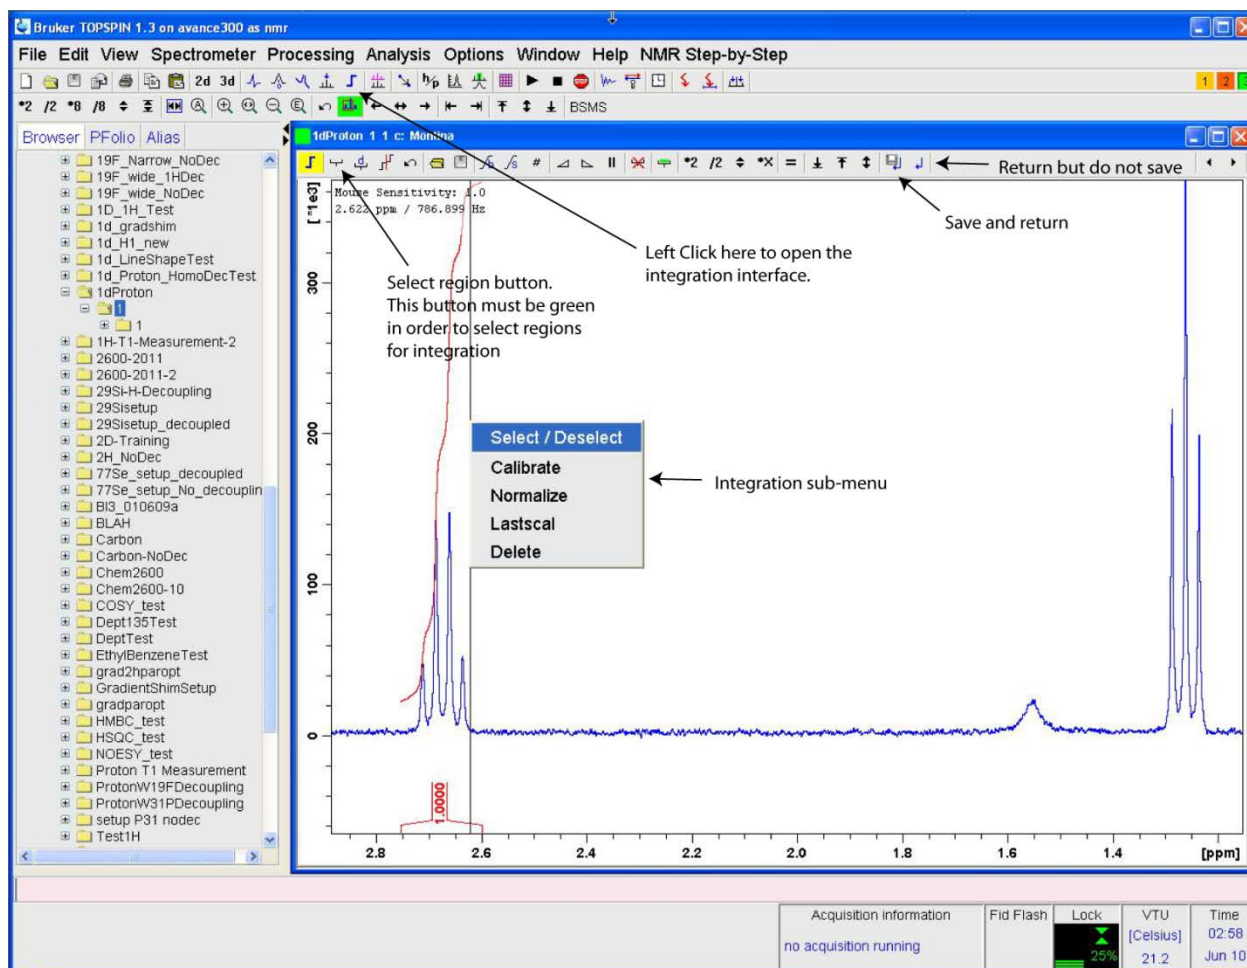

Figure 26 Topspin integration interface.
(20) The spectrum is now ready to be integrated. The integration interface can be brought up by left clicking on “Integrate” in the NMR step-by-step menu or on the icon indicated in Figure 26. The select region button (indicated below) must be highlighted green in order to select the region for integration. The region for integration can be selected by left clicking the mouse, dragging the cursor over the area of interest, and then left clicking one more time. A user should right click over an integrated region to open the integration sub-menu. This menu will allow the user to calibrate and/or delete the integrated region. When all integration is complete the user should left click on the save and return icon.